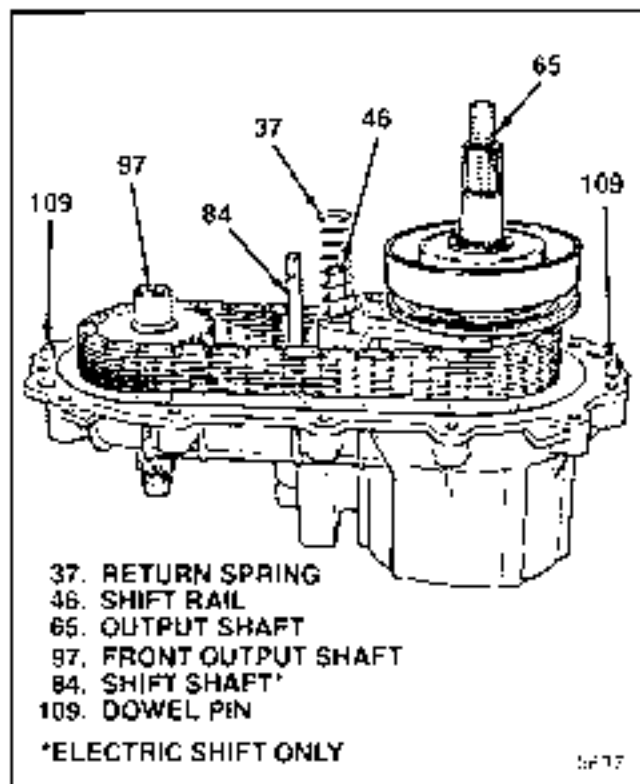

Figure 5-22. Parts To Be Aligned With Cover
8. Install cover assembly (28) on transfer case (11F). All of the following alignment conditions must be met for the cover assembly to seat on transfer case properly (see figure 5-22).